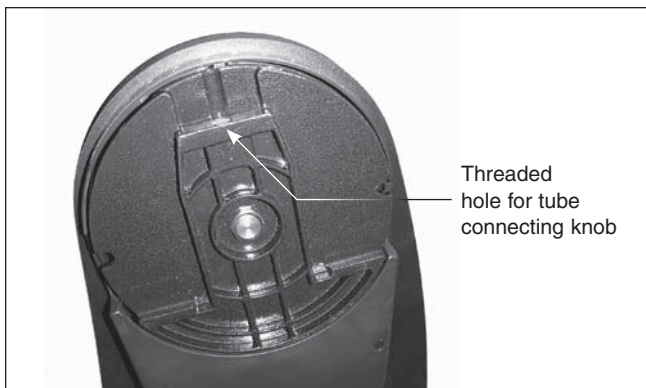

Figure 22. The cast-metal altitude axis trunnion on the left side panel of the base mates with the left side bearing on the telescope tube.
- The left altitude hub on the optical tube has a dovetail slot that slides into the altitude axis trunnion on the inside of the left side panel (**Figure 22**). We recommend orienting the trunnion such that the threaded hole for the tube connecting knob is facing upward. Then the telescope tube can be held horizontally and just lowered into the base by gently sliding the tube's altitude hub into the altitude trunnion on the base (**Figure 23**). If the altitude axis trunnion on the base is oriented differently, you'll have to adjust the angle of the telescope tube so the altitude hub slides into the altitude axis trunnion. (The altitude axis trunnion may be too difficult to rotate by hand to adjust its orientation.) Once seated in the base, the tube will freely rotate to a vertical position due to its bottom-heavy imbalance. That's OK. The tube should now be resting in a vertical position in the base (**Figure 24**).
The left altitude hub on the optical tube has a dovetail slot that slides into the altitude axis trunnion on the inside of the left side panel (**Figure 22**). We recommend orienting the trunnion such that the threaded hole for the tube connecting knob is facing upward. Then the telescope tube can be held horizontally and just lowered into the base by gently sliding the tube's altitude hub into the altitude trunnion on the base. If the altitude axis trunnion on the base is oriented differently, you'll have to adjust the angle of the telescope tube so you can slide it onto the altitude axis trunnion. (The altitude axis trunnion may be too difficult to rotate by hand to adjust its orientation.)